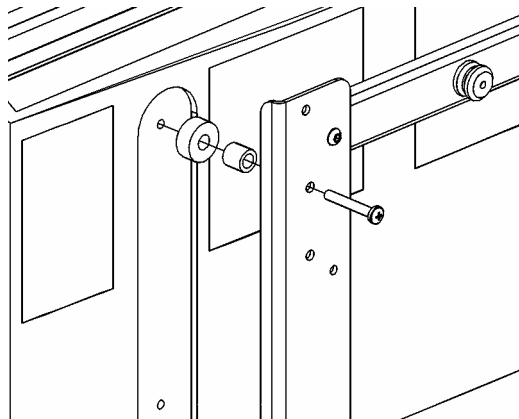
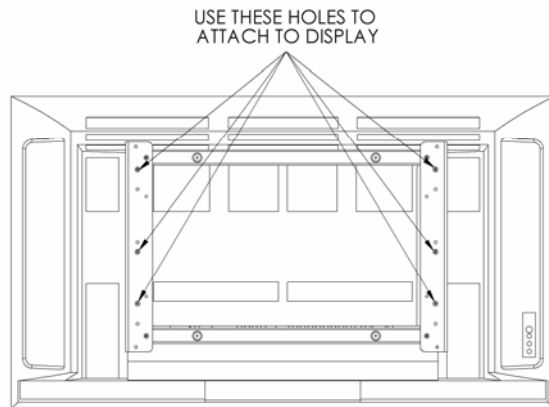

Figure 6
Figure 7
- Place one of each size Nylon spacer over mounting holes on back of screen. Attach mounting brackets to display using M5 screws (see Figures 6 & Figure 7).